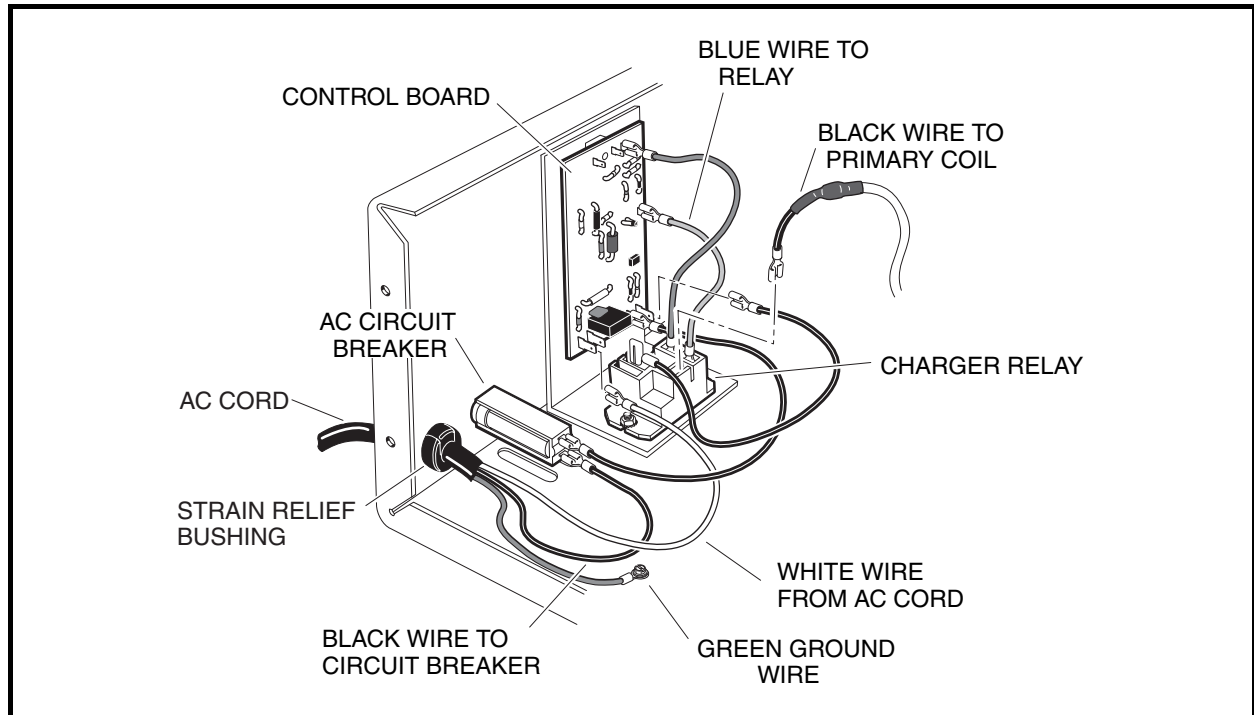

Figure 4-25 Charger Relay
3. Disconnect all wires from the relay (**Figure 4-25, Page 4-29**).
Install in reverse order of removal. Connect wires as shown (**Figure 4-25, Page 4-29**). Tighten nut securing relay to charger base to 18 in-lb (2.0 N·m).
3. Disconnect the two black wires attached to the AC circuit breaker (Figure 4-25, Page 4-29).
3. Disconnect the AC cord black wire from the AC circuit breaker (Figure 4-25, Page 4-29).
5. Disconnect the AC cord green wire from the charger base (**Figure 4-25, Page 4-29**).
1. Insert the black, white, and green leads of the new AC cord into the charger through the hole in the charger face (**Figure 4-25, Page 4-29**).